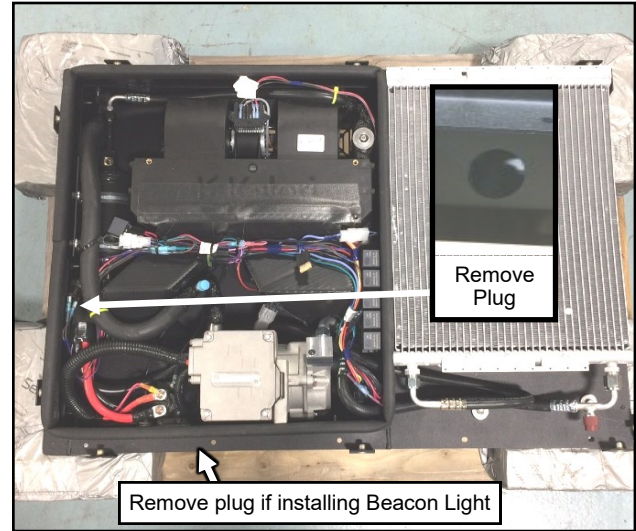

Fig. 2.1 (Remove dome plug from A/C Unit)
- 2.1 Before removing the A/C Unit from shipping pallet, installation of the (3) related A/C Unit harnesses must be completed. First, remove the dome plug on the side of the A/C Unit per Fig 2.1.
- 2.5 If a Beacon Light is to be installed, remove the dome plug from the front of the A/C Unit as shown in Figure 2.1 and install a 1-7/8" O.D. Grommet in the hole with the small lip on the inside of the A/C Unit.